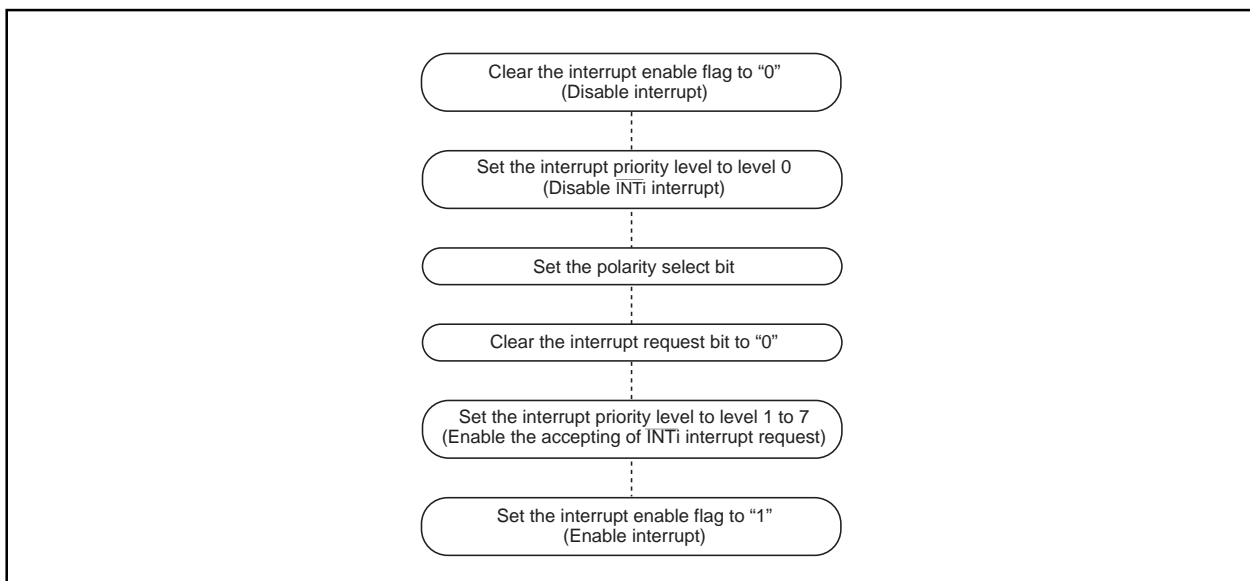

Figure 1.10.17. Switching condition of INT interrupt request
- When the polarity of the  $\overline{\text{INT}}_0$  to  $\overline{\text{INT}}_5$  pins is changed, the interrupt request bit is sometimes set to "1". After changing the polarity, set the interrupt request bit to "0". Figure 1.10.17 shows the procedure for changing the  $\overline{\text{INT}}$  interrupt generate factor.